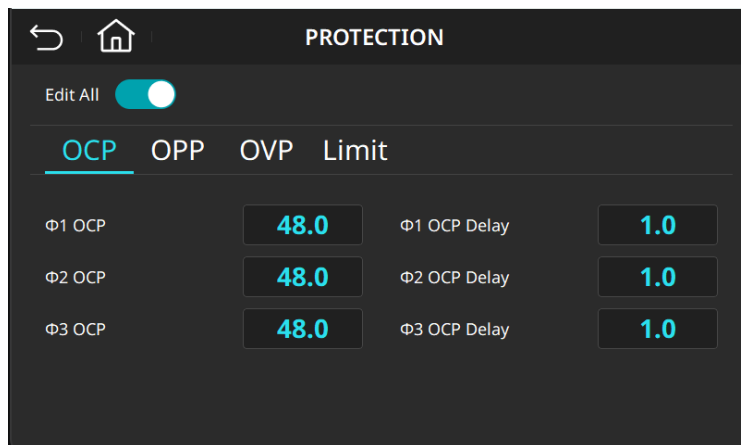

Figure 4-54 Output Overcurrent Protection Page (OCP $\Phi 1/\Phi 2/\Phi 3 = 48.0$ A, OCP Delay $\Phi 1/\Phi 2/\Phi 3 = 1.0$ s)
6. Enter **1**, then press **Enter** to change the value to “1.0”, as shown in Figure 4-54.